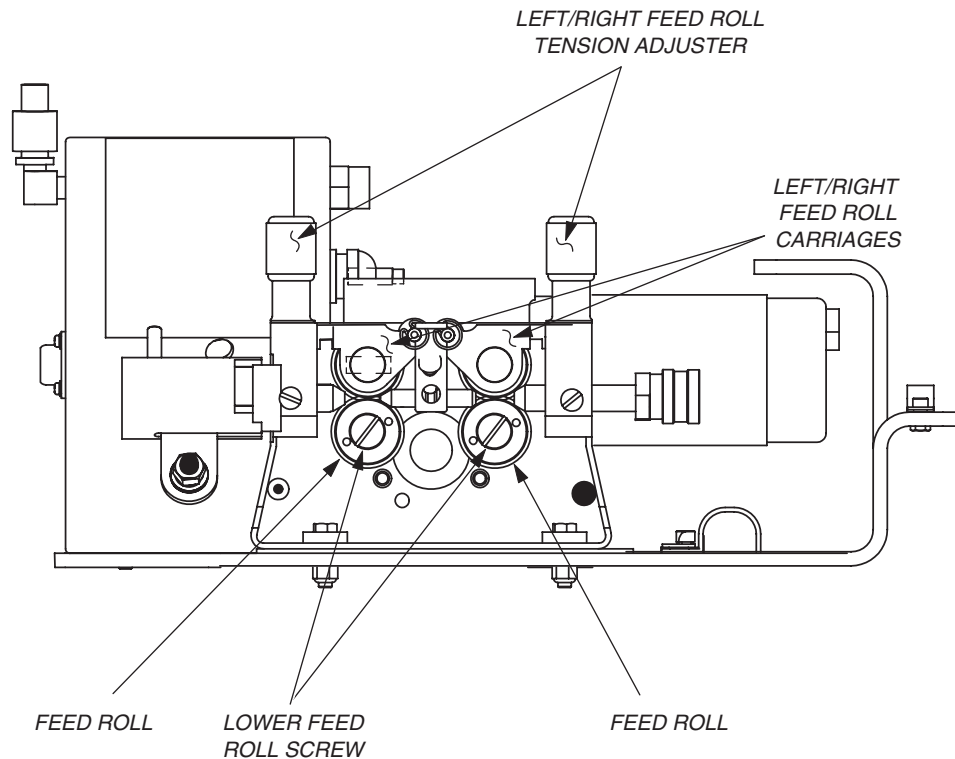

Figure 9 Replacing the Feed Rolls
3. Pull both feed roll tension adjusters (see Figure 9) to release/raise both feed roll carriages.
3. Using a flat-head screwdriver, remove the lower-right feed roll screw (see Figure 9).